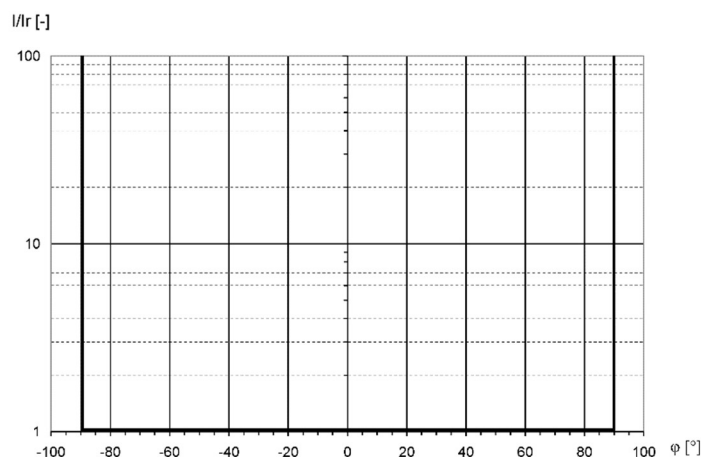

Fig.1. Operating characteristics of the $I>1$, $I>2$ protection functions with directional interlock mode (at line characteristic angle $\varphi = 0^\circ$)
- directional interlock of the relay pick-ups depending on fault power flow direction (see Fig. 1);